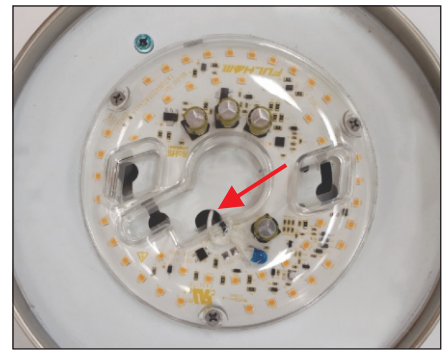

Figure 4
4. Feed line voltage cables from the DirectAC Engine (A) through the flared hole found in the luminaire. See figure 4.